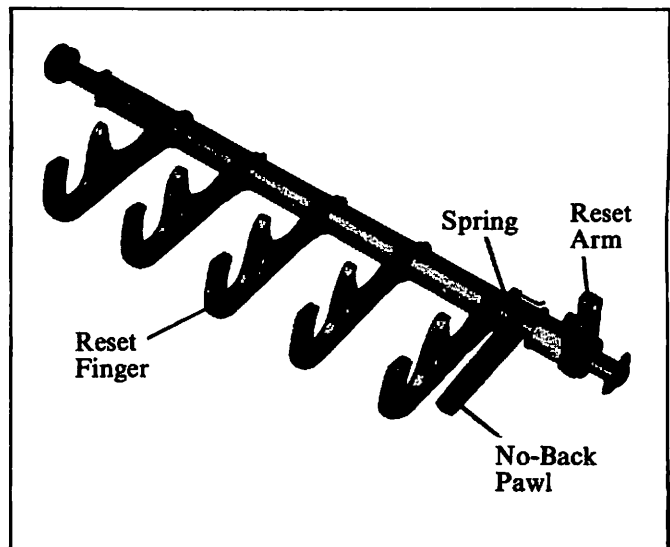

Figure 13. Reset Finger Group.
2. Reset Finger Group Parts Replacement. See Figure 13. Individual reset fingers, reset arm, no-back pawl and pawl spring may be replaced as required.